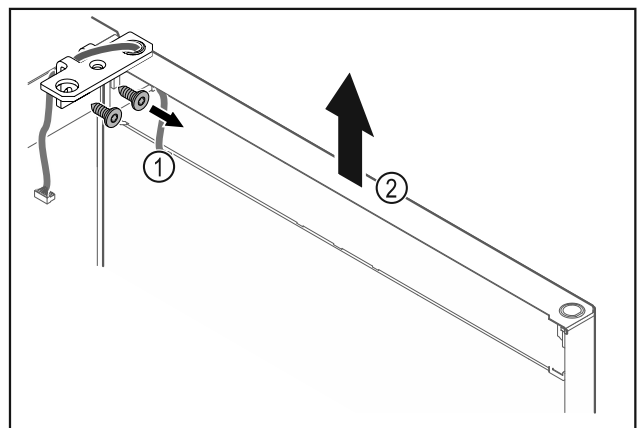

Fig. 25
- ▶ Unscrew the hinge Fig. 25 (1).
- ▶ Lift the door with the hinge straight up by Fig. 25 (2) roughly 200 mm and take it off.